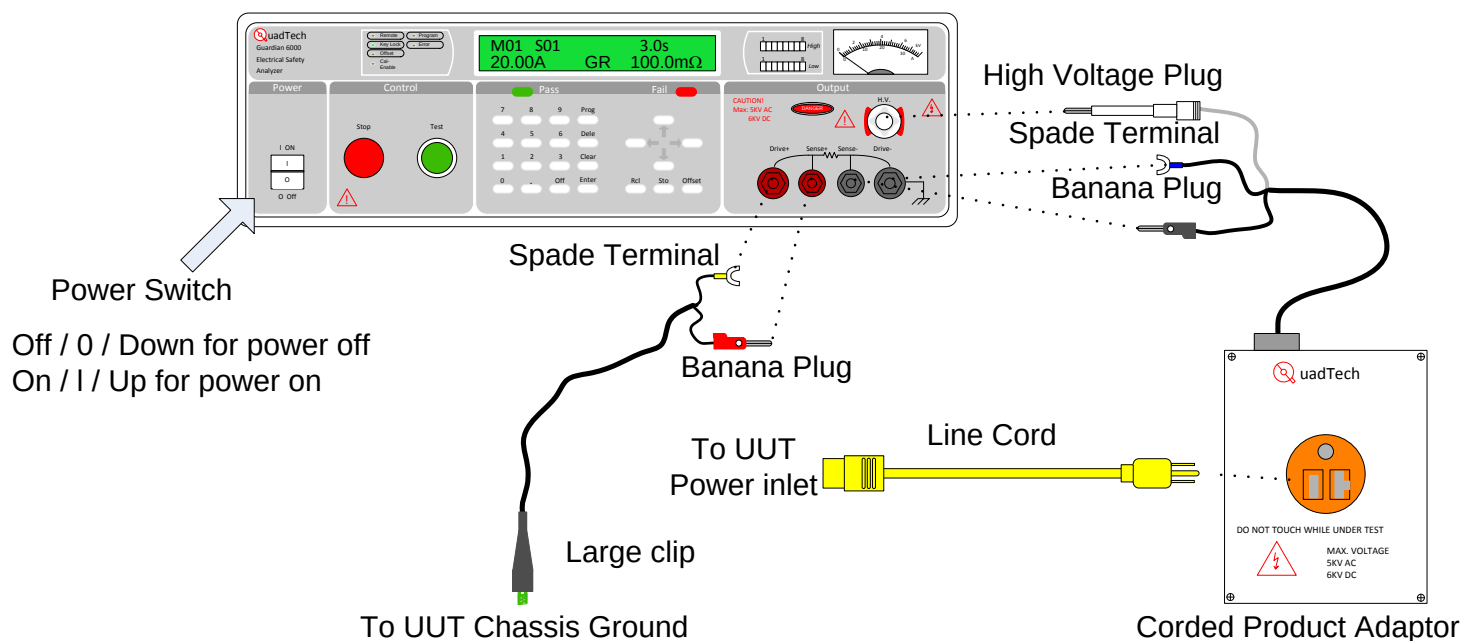

Figure 1 QuadTech Guardian 6000 setup
- 1.2. Verify that the Power switch is off reference Figure 1.
- 1.4. Connect the Corded Product Adapter to the Guardian 6000 or as per Figure 1.